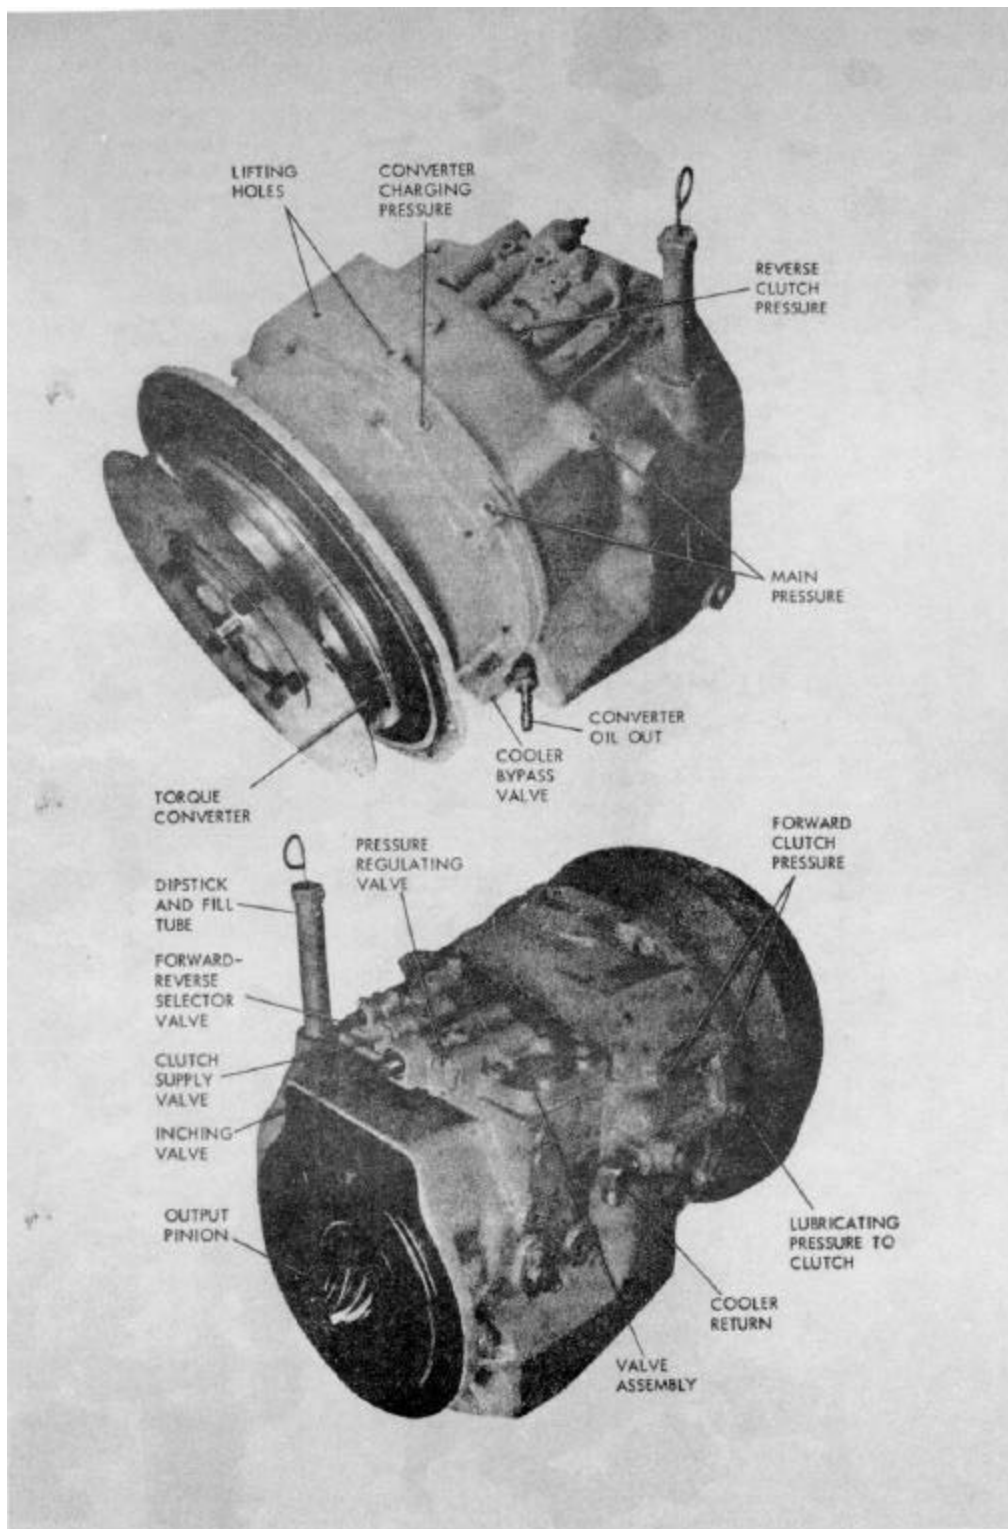

Figure 1-7. Transmission, Showing Pressure Passages
**1-24. TRANSMISSION (See figures 1-7 and 1-8).** The transmission is a power-shifted single ratio forward and reverse unit. A torque converter transmits engine output to the transmission input shaft. The transmission is mounted directly to the engine and drive axle. No intervening drive shaft is used. Shifting between forward and reverse is accomplished by engagement of either a forward or reverse wet clutch in the unit. These clutches are engaged by hydraulic pressure selected by a control valve.